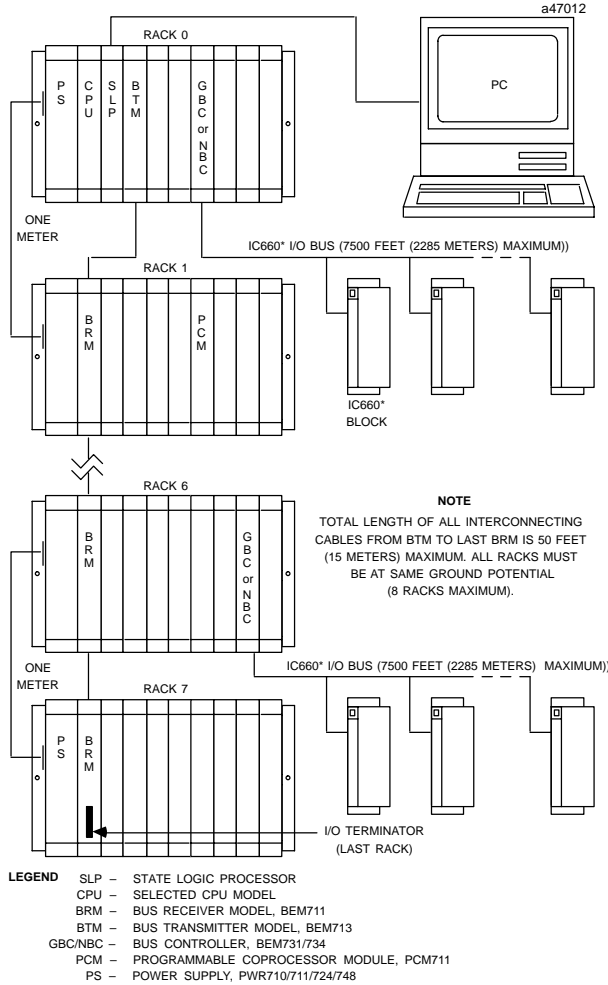

Figure 1. SLP Module in an IC697 PLC System Configuration
- Install the SLP Module in the rack. (See figure 1)